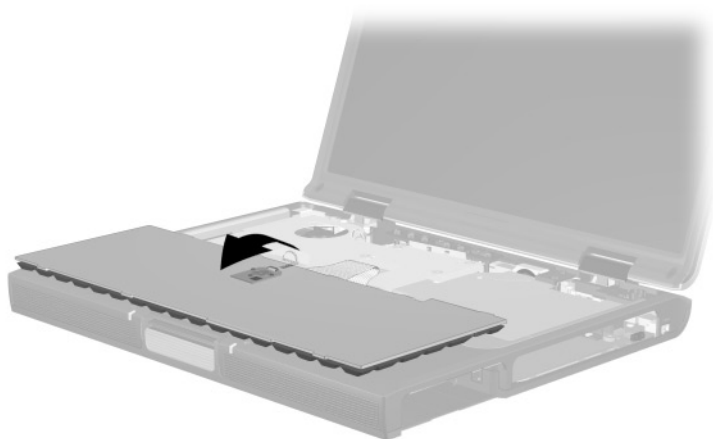

Figure 5-18. Releasing the Keyboard
3. Lift the back edge of the keyboard and swing it forward until it rests on the palm rest (Figure 5-18).